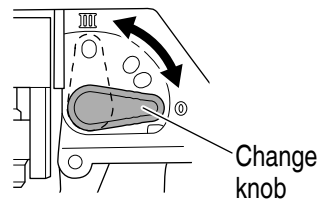

Fig. 6
(1) This Jig Saw employs orbital operation which moves the blade back and forth, as well as up and down. Set the change knob shown in **Fig. 6** to "0" to eliminate the orbital operation (the blade moves only up and down). The orbital operation can be selected in 4 steps from "0" to "III".
(2) For the hard material, such as a steel plate, etc., decrease the orbital operation. For the soft material, such as lumber, plastic, etc., increase the orbital operation to increase work efficiency. To cut the material accurately, decrease the orbital operation.